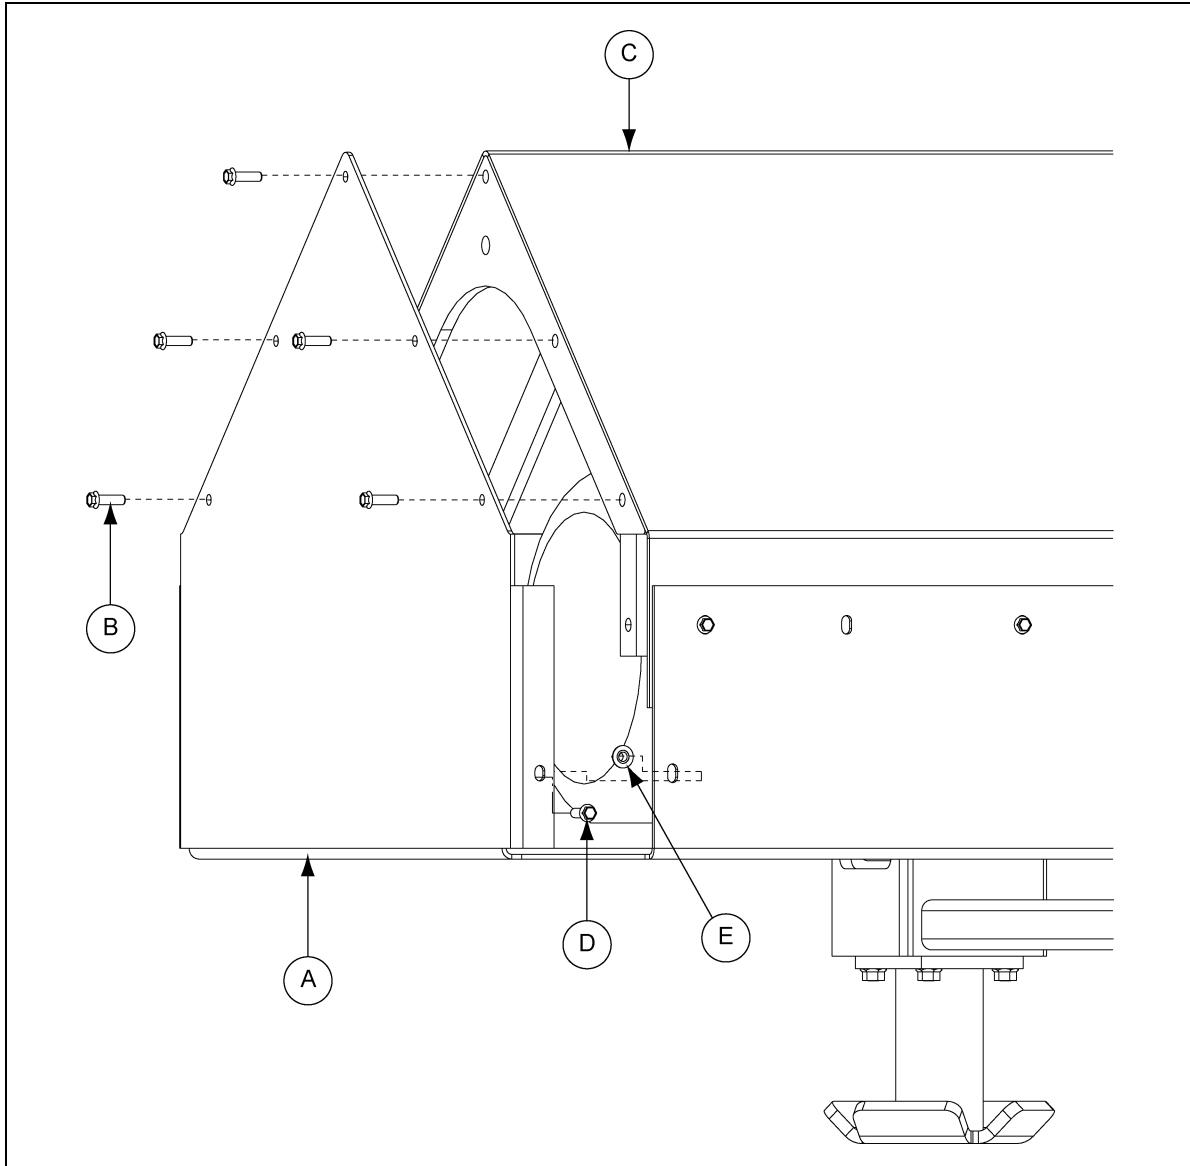

Figure 4AQ
1. Attach auger motor rear cover (A) to the auger motor hood (C) and install hex bolts (B).
2. Install hex bolts (D) and hex nuts (E) to each side of the auger motor hood (C). (See Figure 4AQ.)